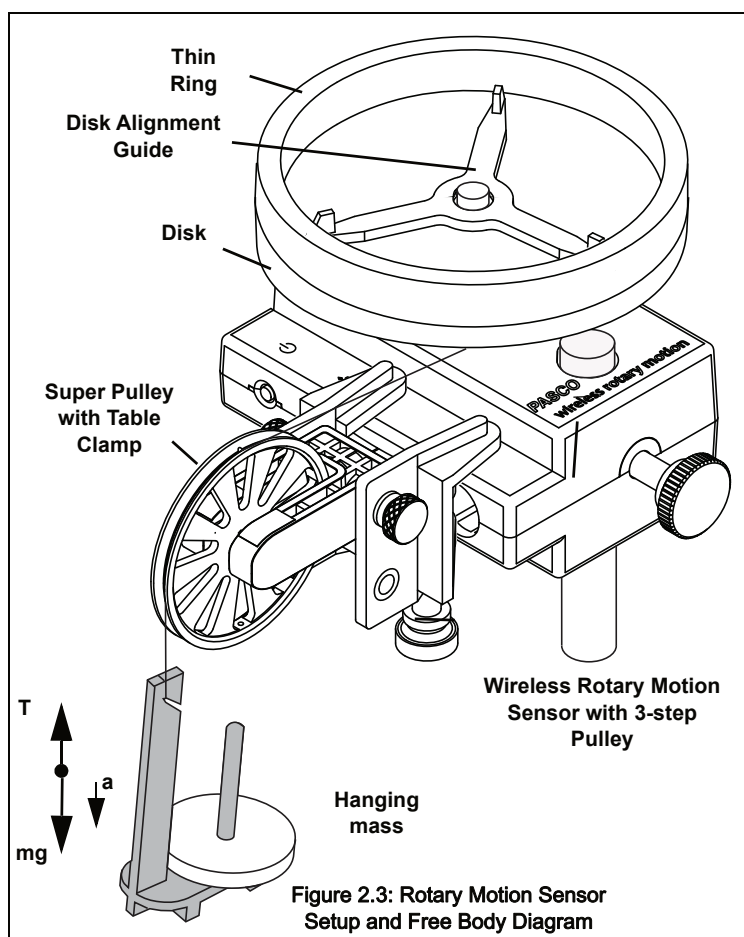

Figure 2.3: Rotary Motion Sensor Setup and Free Body Diagram
See Figure 2.3. Solving for the tension in the thread gives:
2. Mount the Super Pulley with Clamp on the side of the WRMS as shown in Figure 2.3.
6. Remove the thumbscrew from the 3-Step Pulley. Place the disk directly on the square-shaped top of the 3-step Pulley as shown in Figure 2.3.
8. Place the thin ring on the disk alignment guide on top of the disk as shown in figure 2.3..